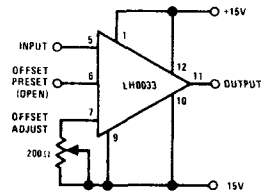

FIGURE 1. Offset Zero Adjust for LH0033 (Pin nos. shown for TO-8)
**Offset Voltage Adjustment:** Both the LH0033's and LH0063's offset voltages have been actively trimmed by laser to meet guaranteed specifications when the offset preset pin is shorted to the offset adjust pin. This pre-calibration allows the devices to be used in most DC or AC applications without individually offset nulling each device. If offset null is desirable, it is simply obtained by leaving the offset preset pin open and connecting a trim pot of 100Ω for the LH0033 or 1 kΩ for the LH0063 between the offset adjust pin and V- as illustrated in Figures 1 and 2.